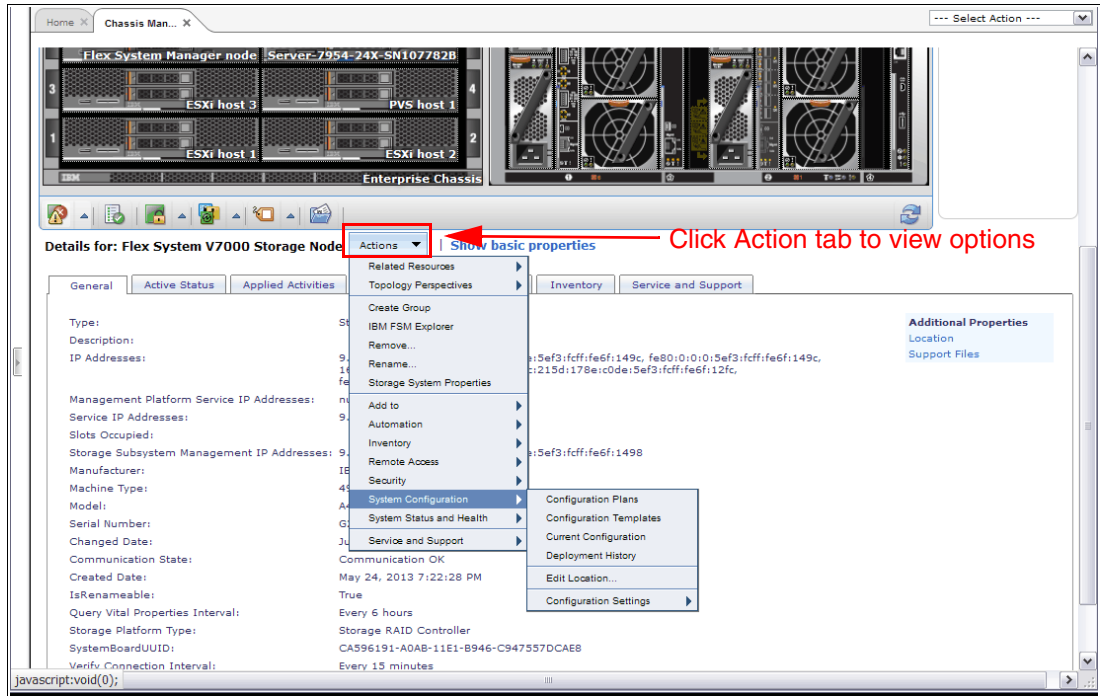

Figure 13-10 Accessing IBM Flex System V7000 Storage Node management options from the FSM Chassis Manager view
4. Click the **Actions** menu for a list of storage viewing and management options, as shown in Figure 13-10.
**Tip:** You can launch the IBM Flex System V7000 Storage Node management GUI from the Chassis Map view. After you select the storage node in the Chassis Map view (as shown in Figure 13-10) click **Actions** → **Remote Access** → **Launch IBM Flex System V7000**.